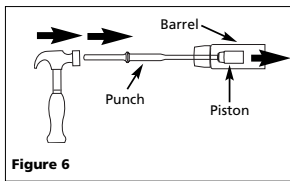

Figure 6
3. If piston is jammed, disassemble barrel from housing. Use punch to push piston through barrel (See Figure 6).